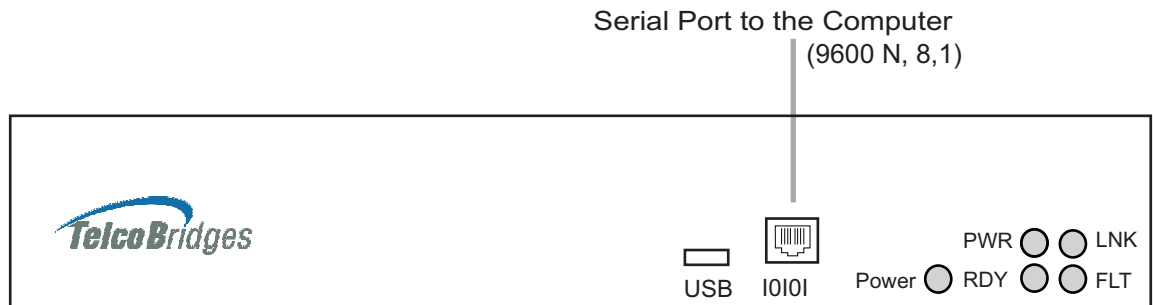

Figure 5.1 Computer to TMG800 Serial Port Connection
1. Connect a RJ45 CAT5 straight cable (supplied with unit) between the com port of your computer and the serial port (labelled I0I0I) of the TMG800 as shown in figure 5.1 on page 26. See figure 5.3 on page 27 for a RJ-45 pinout description.